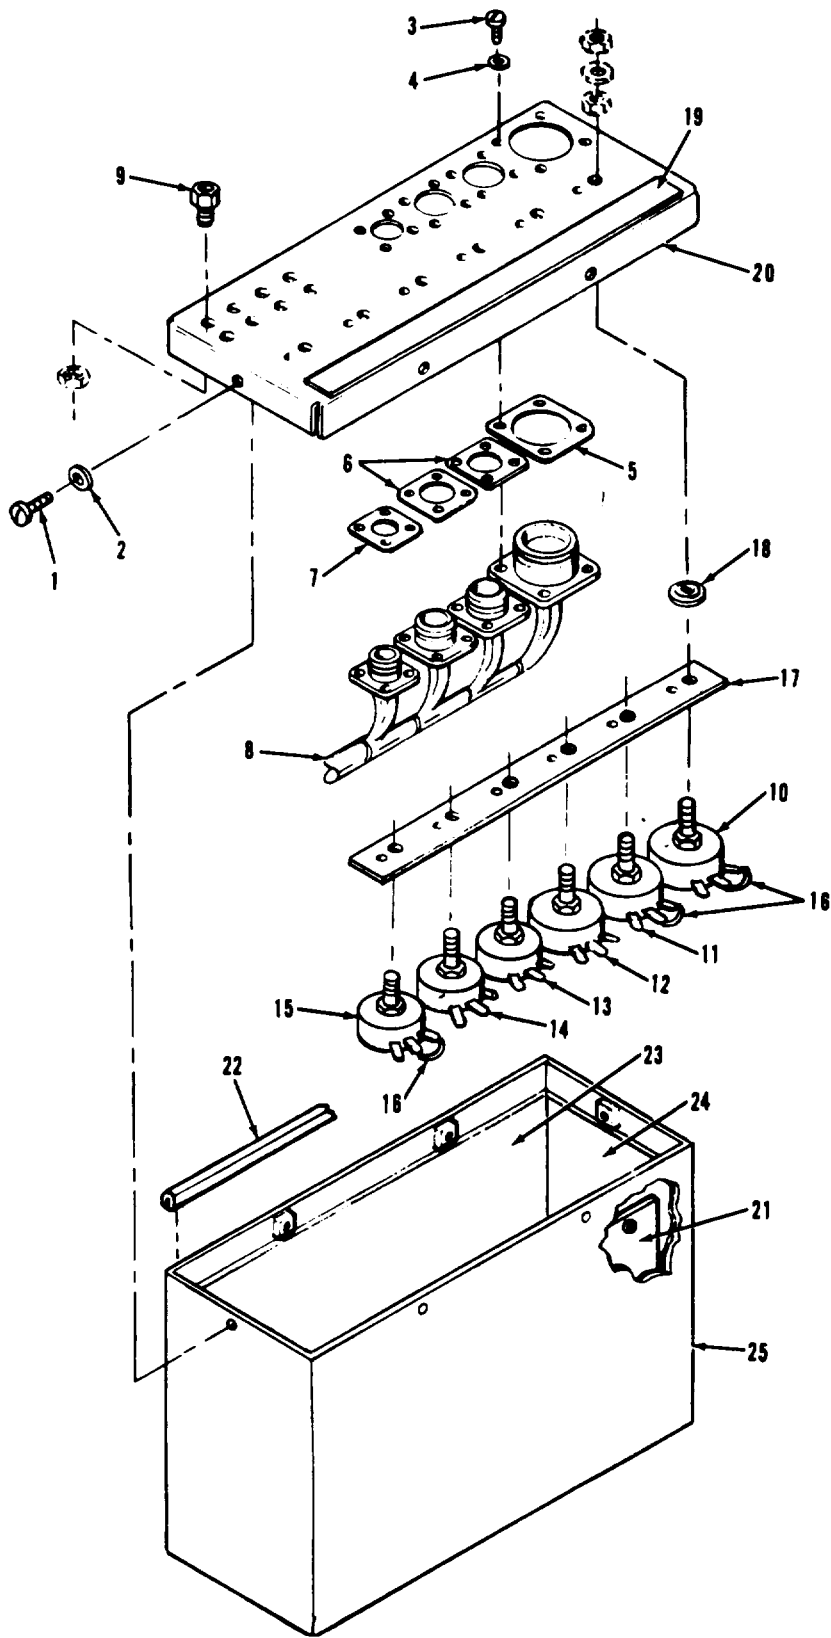

Figure 6-56. Precise governor control unit (A23), exploded view
a. Refer to figure 6-56 and disassemble the precise governor control unit to the extent necessary to accomplish repair. Pay particular attention to the following.
Legend to figure 6-56:
b. Refer to figure 6-56 and reassemble precise governor control unit. Pay particular attention to the following.